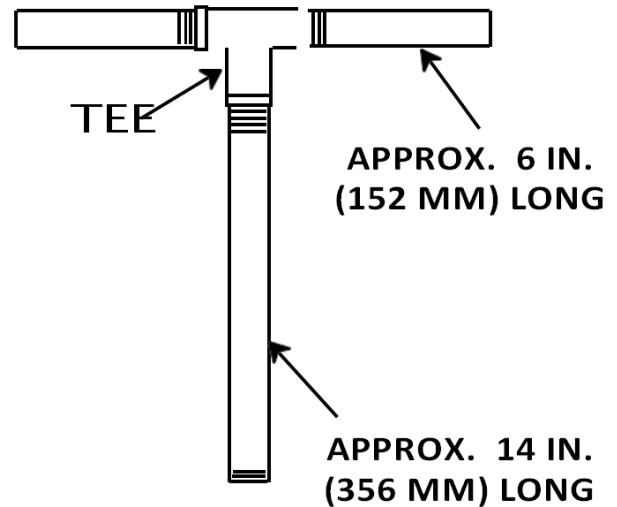

Figure 3. Rotating Assembly Tool
*An optional disassembly tool is not provided by the factory. A similar tool may be assembled using 1/2-inch pipe (schedule 80 steel or malleable iron) and a standard tee (see **Figure 3**). All threads are 1/2-inch NPT. DO NOT pre-assemble the tool.*